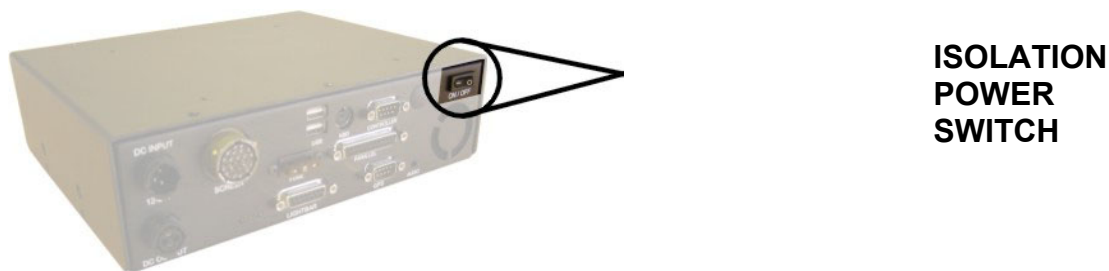

Figure 2-1 : The Saturn “H” interface box & Isolation Power Switch
- 1) Turn the Isolation Power Switch (IPS) on the Interface Box to the ON position (-). This will not immediately power the system as the vehicle ignition must also be ON. See Figure 2-1 to locate the IPS.